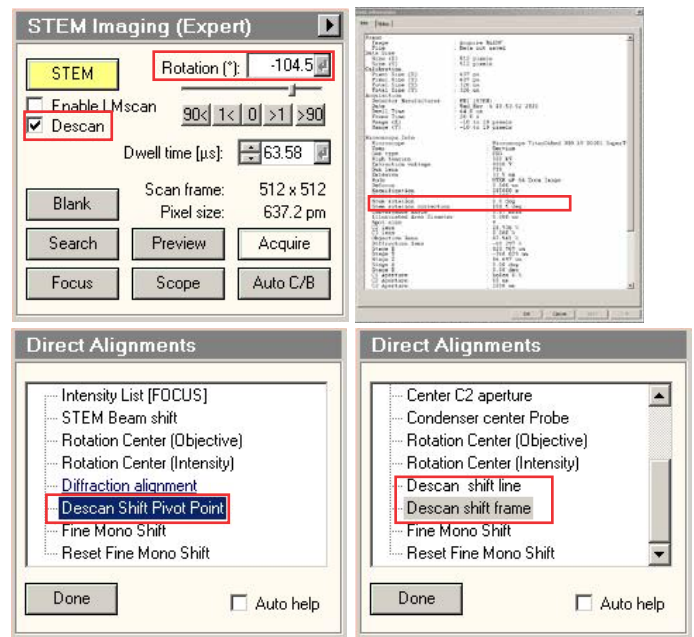

Figure 8. Screenshots showing how to acquire STEM rotation correction angle and Descan alignments.
- Select **Descan** in STEM control panel (Fig. 8).
- Enter the opposite value as the STEM rotation in the STEM control panel (Figure 8).
- Exit diffraction, increase dwell time for **Search** to >15 μ sec, and activate **Scope** in STEM control panel (Figure 8).
- Optimize Descan shift line and frame (Figure 8):